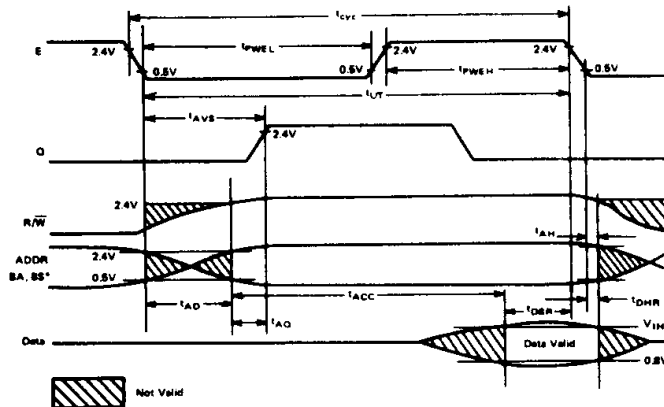

Figure 2 Read Data from Memory or Peripherals
Sixteen pins are used to output address information from the MPU onto the Address Bus. When the processor does not require the bus for a data transfer, it will output address FFFF₁₆, R/W = "High", and BS = "Low"; this is a "dummy access" or VMA cycle. Addresses are valid on the rising edge of Q (see Figs. 2 and 3). All address bus drivers are made high impedance when output Bus Available (BA) is "High". Each pin will drive one Schottky TTL load or four LS TTL loads, and typically 90 pF.
This signal indicates the direction of data transfer on the data bus. A "Low" indicates that the MPU is writing data onto the data bus. R/W is made high impedance when BA is "High". R/W is valid on the rising edge of Q. Refer to Figs. 2 and 3.